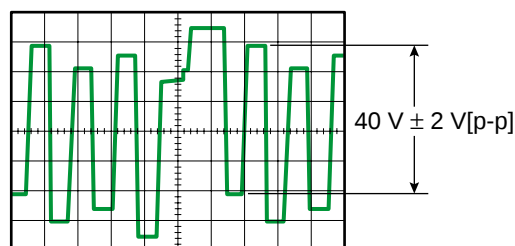

Fig. 4-5
- Adjust **STD COLOR** by pressing the Increment Button (+) or the Decrement Button (-) so that the output of TP803 becomes $40\text{ V} \pm 2\text{ V[p-p]}$ as shown in Fig. 4-5.